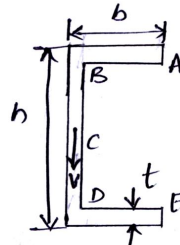

Fig.Q.3(a)
- b. Calculate the shear flow and shear centre for the following section. (Refer Fig.Q.3(b)).